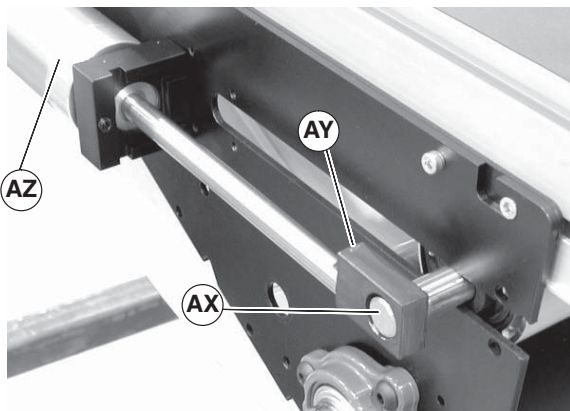

Figure 66
6. Push shaft (Figure 66, item AX) through block (AY) on opposite side of center drive, slide block toward air cylinder (AZ).